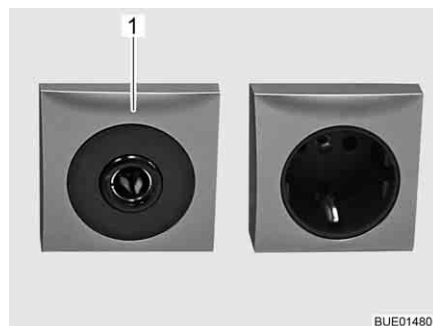

Fig. 128 12 V/10 A socket
- ▷ Only connect devices with a maximum of 10 A to the sockets (Fig. 128,1) of the 12 V power supply.